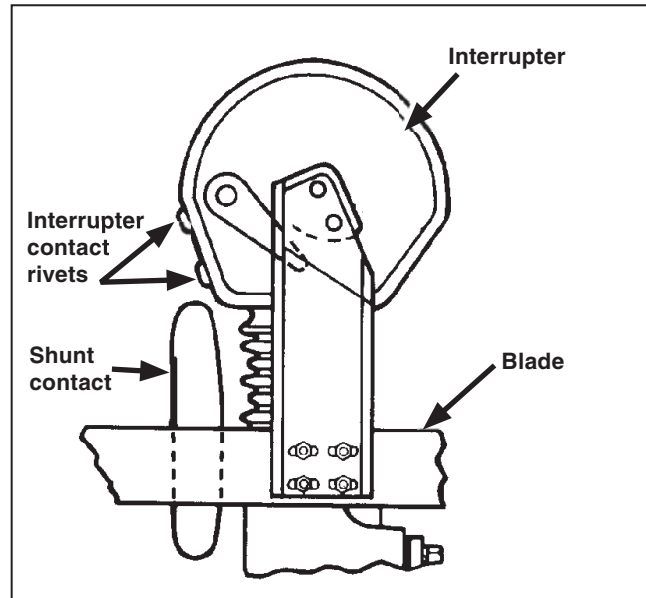

Figure 34. The blade assembly moving in the Opening direction.
- (g) Move the blade in the *opening* direction and verify each blade shunt contact firmly engages its respective interrupter contact rivets before the blade contacts disengage from the stationary main contact assemblies. See Figure 34. The shunt contacts may be bent as required to conform to these conditions.